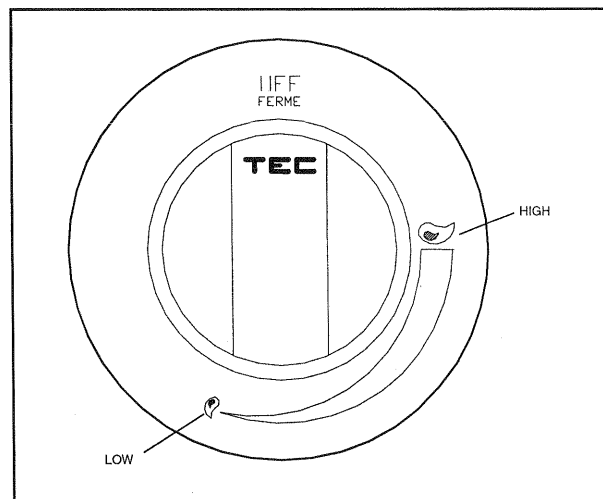

Figure 5. Burner Output Knob
4. Depress and rotate the Burner Output Knob to HIGH. (See Figure 5.)